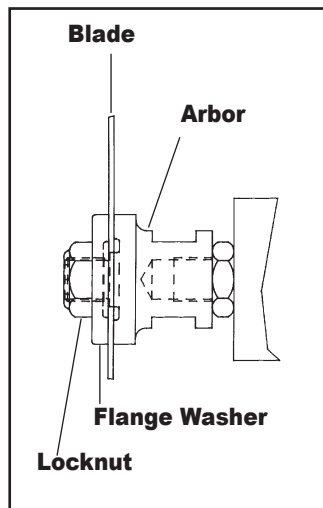

FIG. 2
- a. Standard Arbor - Install the blade on the 5/8 diameter arbor shoulder (Fig. 2). Install the flange with the relieved side toward the blade and screw on the locknut. While holding a wrench (supplied) on the 7/8 arbor flats, tighten the arbor locknut. The blade must seat fully on the arbor shoulder and flush against the face of the arbor.
Detail of **Flange Washer** from Fig. 2 and 3 at right.